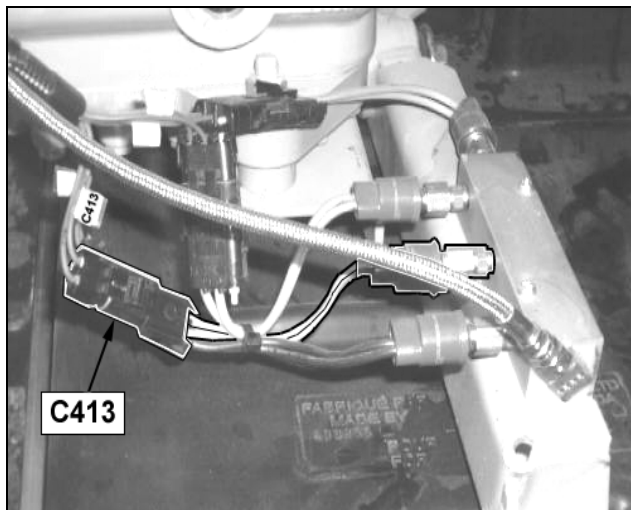

FIGURE 5: ORIGINAL CONNECTION.
9. Disconnect plug #413 (Fig. 5). This is the high pressure unloader switch connector. Also disconnect plug #132 which is the connector of the pressure switch directly mounted on the compressor.